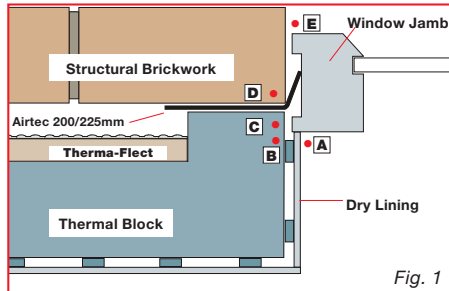

Fig. 1
- Option 2** Staple or tack Airtec to the jamb/sill of the window/ door frame if the window is to be built in. Allowing for at least 40mm lap of Airtec to be positioned between the window/door jamb and the outer leaf (See Fig. 1).